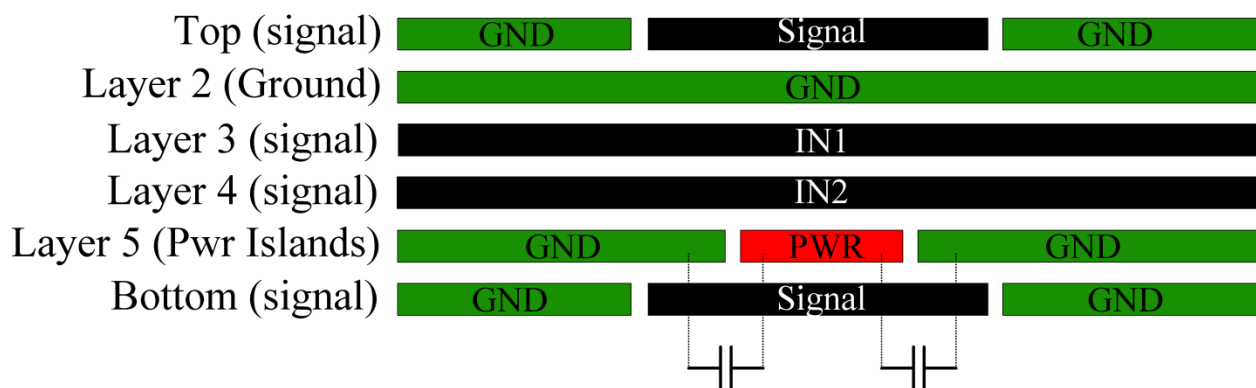

Figure 5-3: Layer stackup Power and Ground Decoupling
- When signal traces are re-referenced to power island planes, decoupling capacitors (0.01uF ceramic) are required between the ground plane and power plane as shown below in Figure 5-3